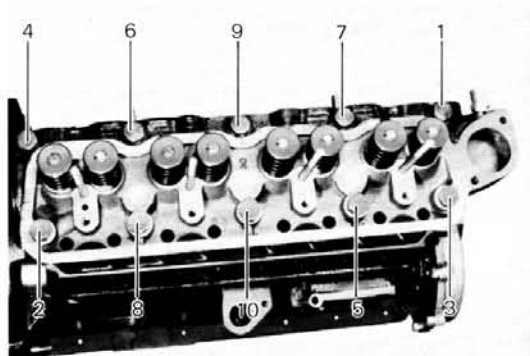

Fig. 1-4 Head Bolts Loosening Order
21. Remove the cylinder-head bolts, and remove the cylinder head and the gasket. When loosening the cylinder head bolts, follow the order in accordance with the numbers shown in figure 1-4, in three progressive stages.